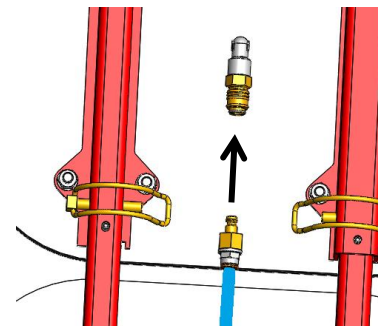

Figure: 18
- Attach the vacuum hose with quick connect from the extra suction cup to the quick coupling on the main machine (see figure 18). Do this for both extra suction cups.